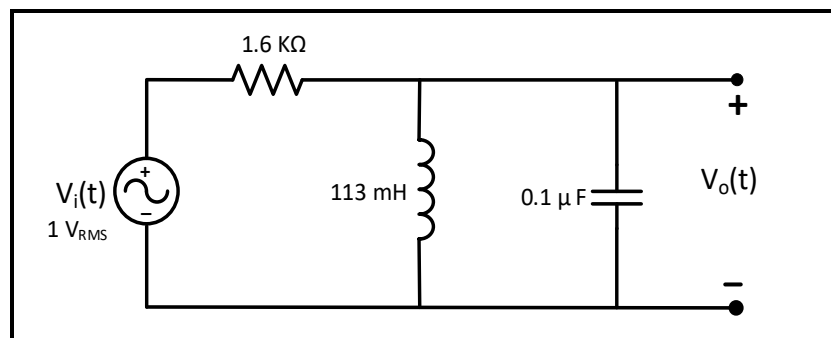

Figure 11.7
4. Repeat steps 1 and 2 for the circuit of figure 11.7.
5. Repeat Step 2 for the circuit of figure 11.7, using $R = 3.2 \text{ k}\Omega$.
6. Repeat Step 2 for the circuit of figure 11.7, using $L = 60 \text{ mH}$.
- Connect the circuit of Figure 11.7, with a sinusoidal input voltage at 1 V_{RMS} , use decade box for R.
6. Repeat steps (3-5) for the circuit of figure 11.7 using $R = 3.2 \text{ k}\Omega$, record results in Table 11.5.
7. Repeat steps (3-5) for the circuit of figure 11.7 using $L = 60 \text{ mH}$, record results in Table 11.6.